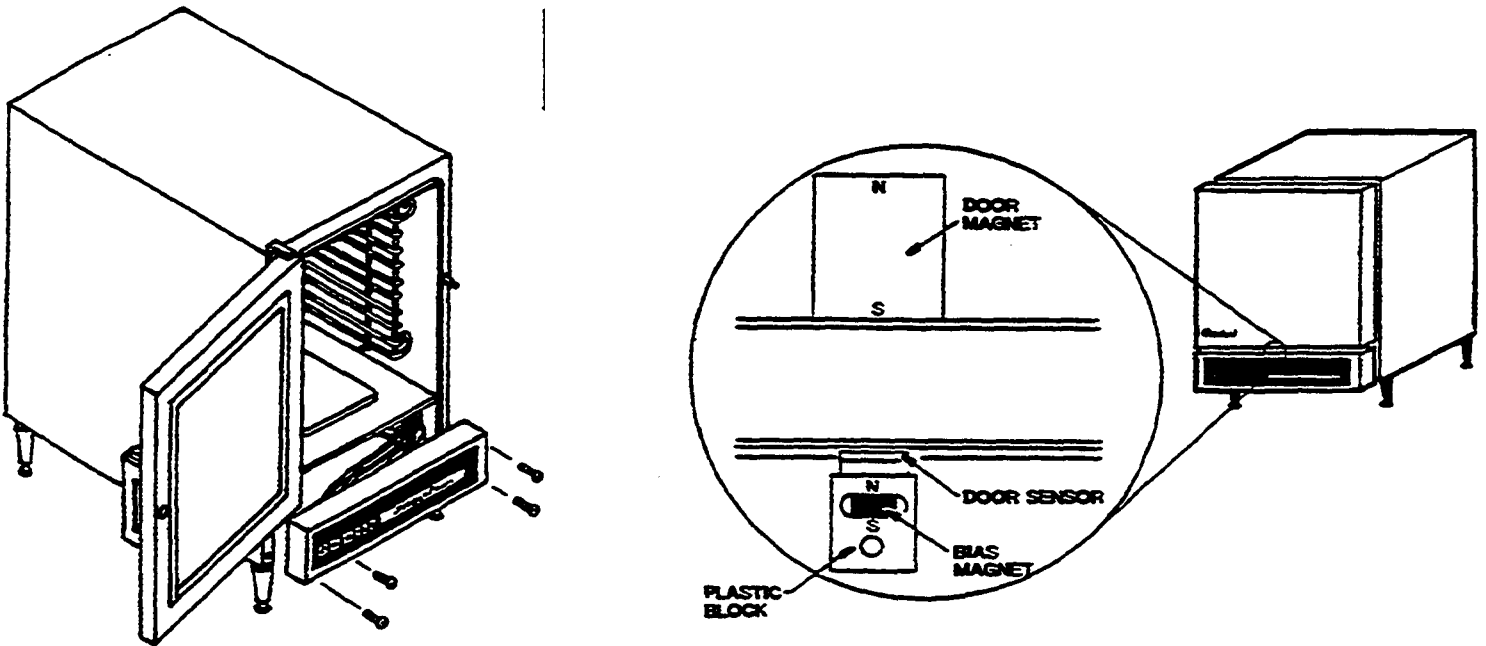

Figure 2-26. Control Panel Removal
- c. Refer to figure 2-26, and remove the mounting screws. Save the screws. Place the panel upright at the base of the steamer.
- d. Set a magnet over the door switch as shown in figure 2-26.
- a. Aline the positioning stud as shown in figure 2-26.
5. Set a magnet over the door switch as shown in figure 2-26. The condenser, fan and heaters turn on.